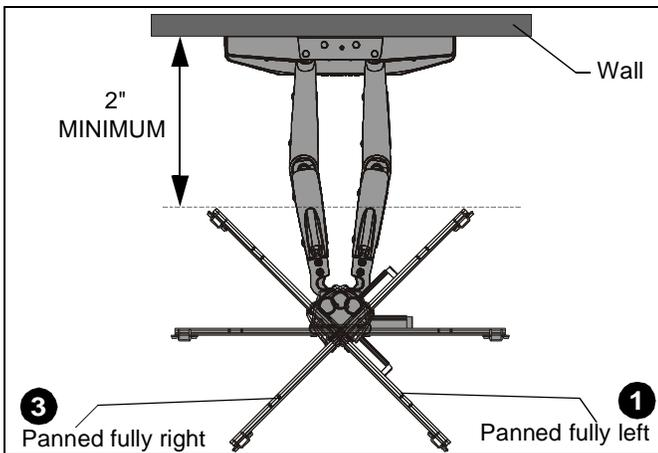

Figure 28
1. Pan PXR to left until the inside edge of horizontal bracket is at least 2" away from the wall. (See Figure 28)
3. Pan PXR to right until the inside edge of the wall. (See Figure 28)